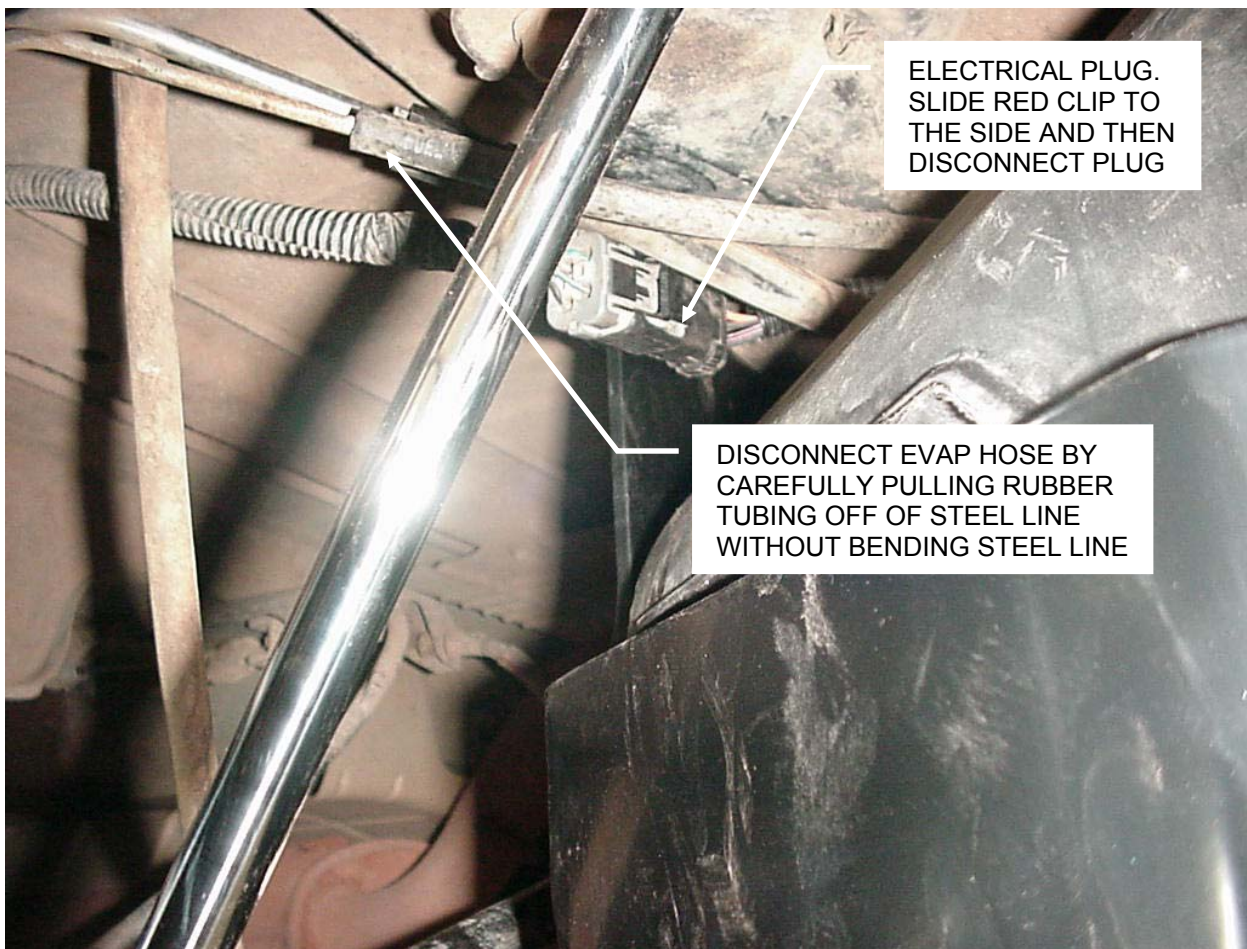

Figure 1: Evap Hose, Electrical Plug
4. On some models of the TJ there may be a grounding strap attached to the driver's side shock mount. Use a flat head screwdriver to remove it. Disconnect the electrical connector at the left front corner of the tank. Slide the red locking clip to the side then unhook the connector. **See Figure 1.**
5. Disconnect the evap. hose from the steel tubing. Do not bend or damage the steel tubing. **See Figure 1.**